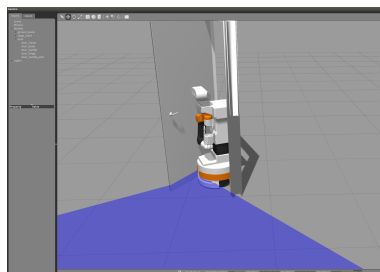

Figure 4.2: Passing through the door with TIAGo robot.
- 1.- In order to see the created model on the simulation, use the steps described in section 3 to import the *door* model on a simulation with the TIAGo robot and use the *key_teleop* demo to pass through the door (see Fig. 4.2).